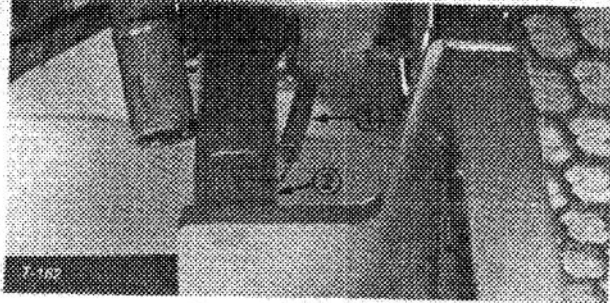

Figure 25
4. Using a vise grip pliers, install long end of spring through slotted hole in cutting unit suspension frame (Fig. 25).